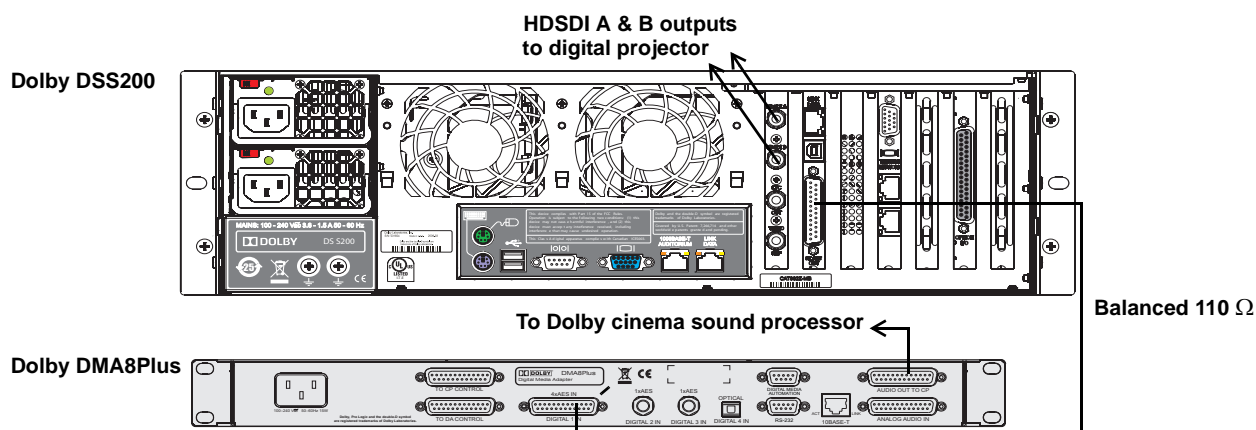

Figure 3-10 Connecting the DSS200 A/V Outputs (DMA8Plus Configuration)
To connect the DSS200's audio and video outputs (see Figure 3-10):
- Connect the 25-pin D-connector cable (supplied with the optional Cat. No. 899-DMA8 Installation Kit) to the DSS200's **8 x AES OUT** connector, then connect the other end of the cable to the DMA8Plus **4 x AES IN** connector, as shown in Figure 3-10. The Dolby Part Number for this cable is 8305580.